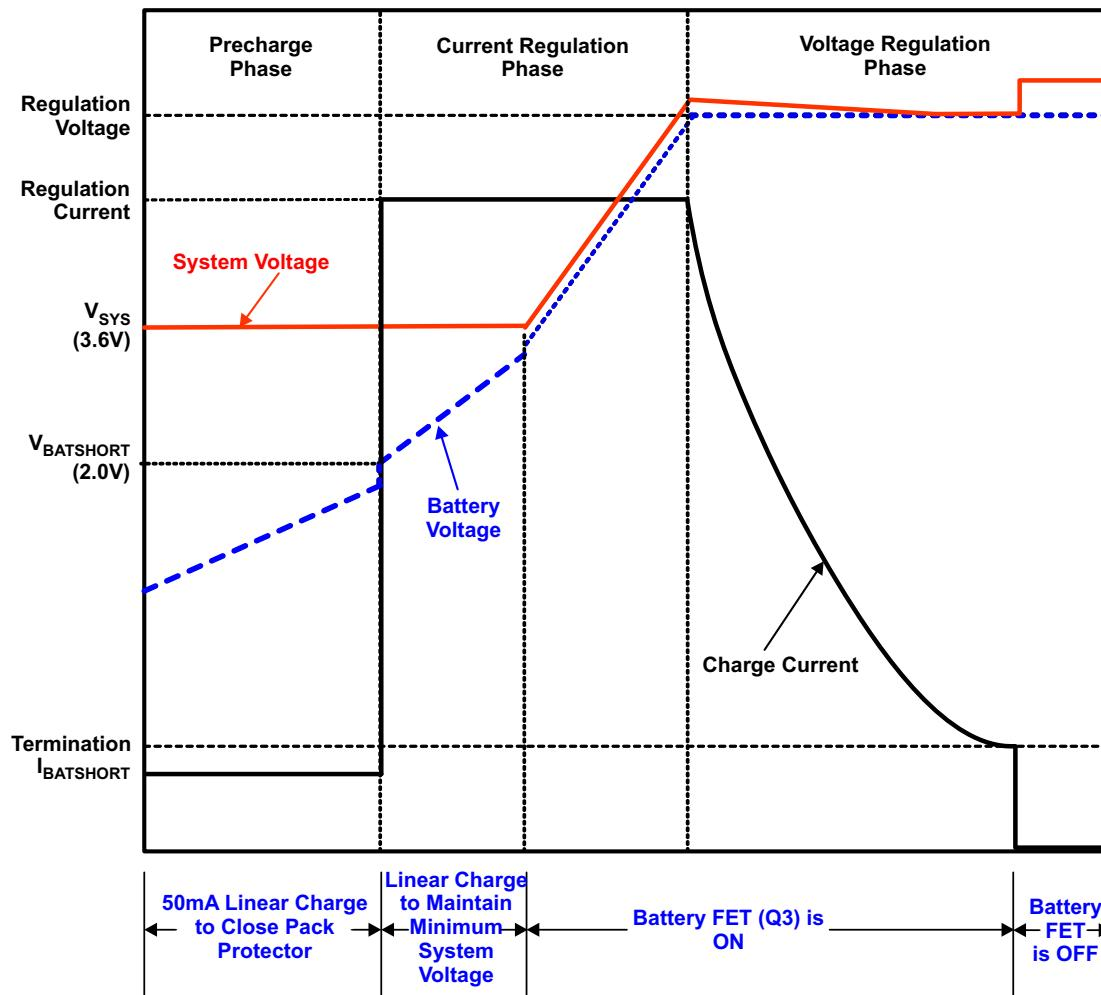

Figure 24. Typical Charging Profile of bq2426x with Termination Enabled
The bq2426x supports a precision Li-Ion or Li-Polymer charging system for single-cell applications. Charging is done through the internal battery MOSFET. There are 6 loops that influence the charge current; constant current loop (CC), constant voltage loop (CV), thermal regulation loop, minimum system voltage loop (MINSYS), input current limit and V_{IN} -DPM. During the charging process, all six loops are enabled and the one that is dominant takes control. The minimum system output feature regulates the system voltage to $V_{SYSREG(LO)}$, so that startup is enabled even for a missing or deeply discharged battery. Figure 24 shows a typical charge profile including the minimum system output voltage feature.
Once the battery is charged enough that the system voltage rises above $V_{SYSREG(LO)}$ (approximately 3.5V), the battery FET is turned on fully and the battery is charged with the full programmed charge current set by the I²C interface, I_{CHARGE} . The charge current is regulated to I_{CHARGE} until the voltage between BAT and PGND reaches the regulation voltage. The voltage between BAT and PGND is regulated to V_{BATREG} (CV mode) while the charge current naturally tapers down as shown in Figure 24. During CV mode, the SYS output remains connected to the battery. The impedance of the battery FET is increased to 4x of the fully on value when IBAT falls below ~350mA to provide increased accuracy during termination. This will show a small rise in the SYS voltage when the R_{DSON} increases below ~350mA.